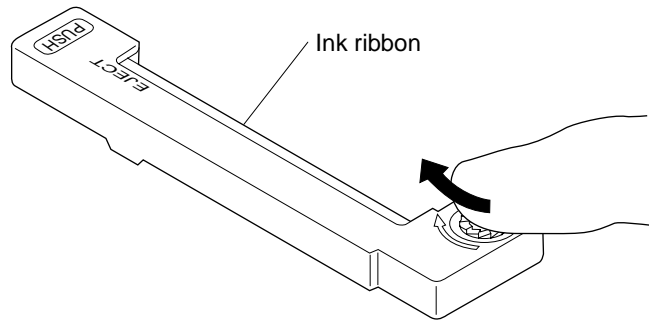

Figure 2-10 Tightening Ink Ribbon
- 3) Before installing the ribbon cassette in the printer, rotate the knob in the direction of the arrow in Fig. 2.10 to tighten the ink ribbon.